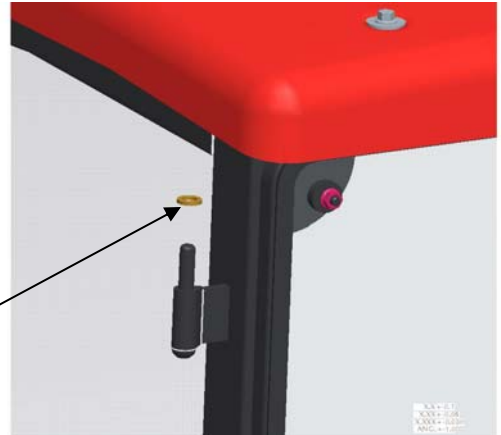

Figure 1
1. Install brass washers on all 6 door pins. See Figure 1.